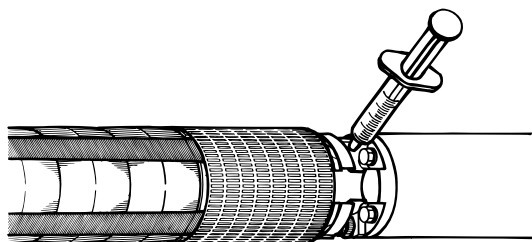

Fig. 7 Position of filling valve
1. Press out the filter in front of the valve at the top of the motor using a screwdriver. If the filter is slotted, unscrew. Figure 7 shows the position of the filling valve.
2. Press the filling syringe against the valve and inject the liquid. See fig. 7. If the valve cone is depressed too far, it may be damaged thus causing the valve to leak.